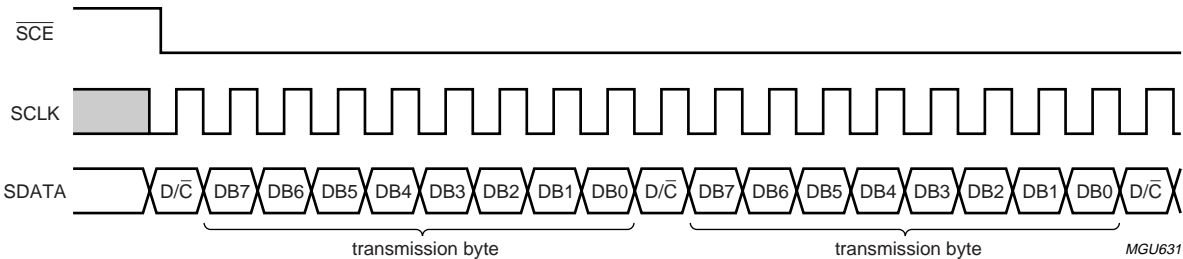

Fig.22 Serial interface (3-line), write mode - transmission of several bytes.
- If \overline{SCE} stays LOW after the last bit of a command/data byte, the serial interface is ready for the D/\overline{C} -bit of the next byte at the next rising edge of SCLK (see Fig.22).